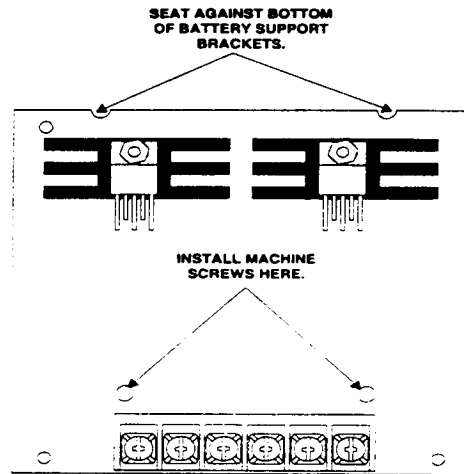
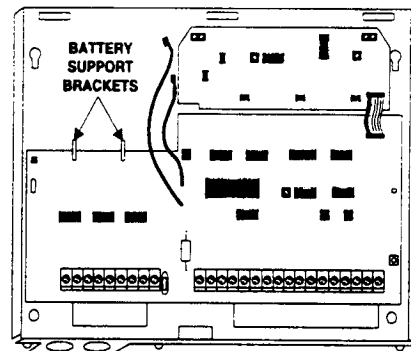

Figure 1. Audio Booster Notch and Screw Locations
Figure 2. Battery Support Bracket Locations
- 2) Hold the booster so that the terminal strip is located at the bottom (see Figure 1).
- 3) Place the notches at the top of the booster (see Figure 1) against the bottom of the Control Panel battery support brackets (see Figure 2).
- 4) Install the two machine screws (included) at the locations shown in Figure 1.